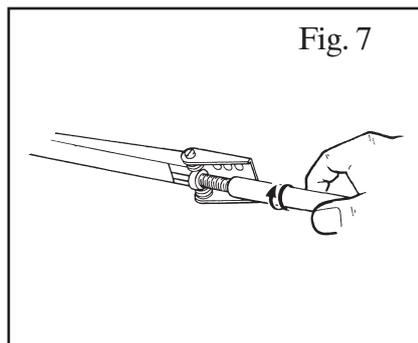

Fig. 7
6. Open the window just enough to allow the thread on the cylinder to catch the thread inside the cylinder housing (3). Then wind the cylinder on until equal much of the cylinders thread is visible on either side of the cylinder housing – see Fig.7.